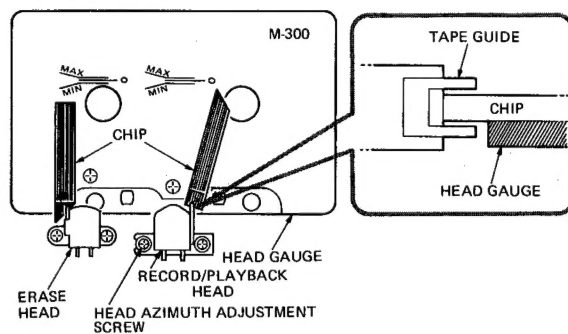

Fig. 1
- Set the unit in the playback mode and place the adjustment chip on the head gauge as shown in the Fig. 1.